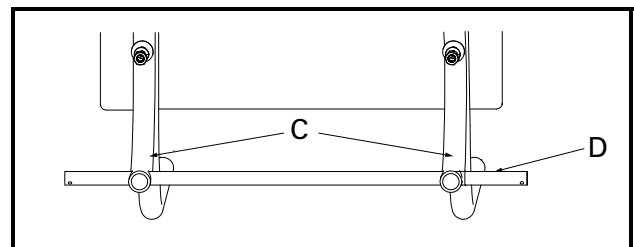

FIGURE 6. Axle Installation.
- Insert the stainless steel axle (D) through the two holes in the cart handle (C) as shown in Fig. 6.